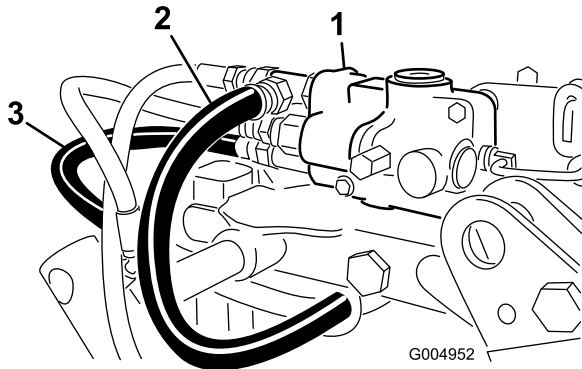

Figure 102
11. Disconnect the tank hose from the control valve (Figure 102). Cap the hose and fitting with a cap and plug. Pull the tank hose back toward the rear of the frame.
12. Disconnect the pressure hose from the control valve (Figure 102). Cap the hose and fitting with a cap and plug. Pull the hose back toward the rear of the frame.